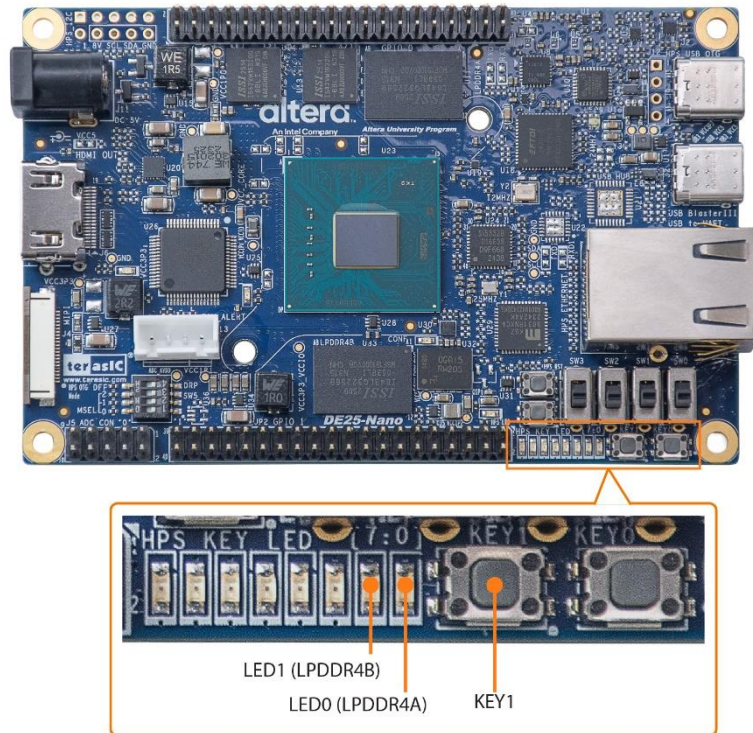

Figure 2-24 Location of the KEY and LED on the DE25-Nano board
5. Press **KEY1** (see Figure 2-24) to start LPDDR4 write & loopback verify process. It will take about 1 second to perform the test. While testing, the LED will blink. When LED stop blinking it means the test process is done.